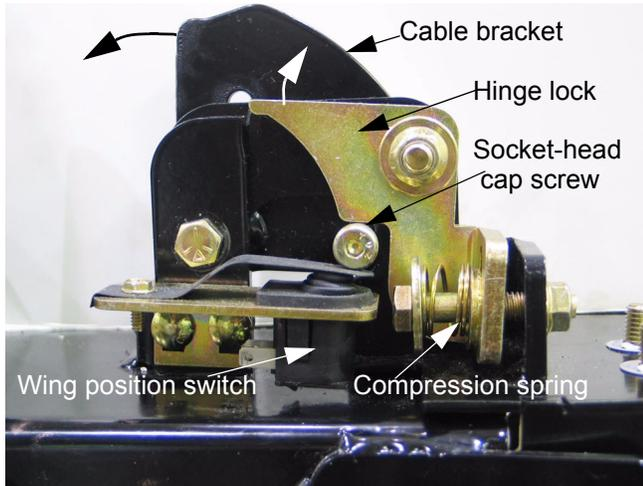

Figure 10.3
- 10.3. When the wing lift is activated, all four cables, hinge locks, and lift mechanisms should work in unison: See Figure 10.3.